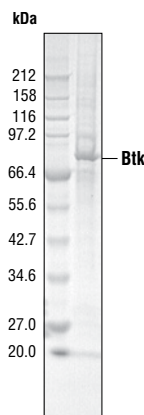

Figure 1. The purity of the Btk fusion protein was analyzed using SDS/PAGE followed by Coomassie stain.
**Quality Control:** The theoretical molecular weight of the Btk fusion protein is 78 kDa. The purified kinase was quality controlled for purity using SDS-PAGE followed by Coomassie stain [Fig.1]. Btk kinase activity was determined using a radiometric assay [Fig.2].